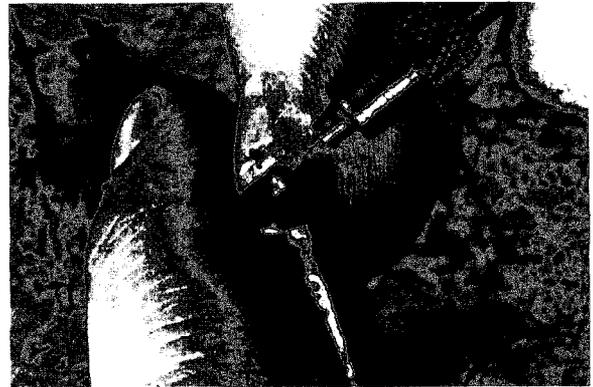

Figure 7-8
4. Clean spray holes with appropriate size cleaning needle (Figure 7-8). Remove burned-on combustion deposits on nozzle tip with dry cleaning solvent P-D-680. Rinse in clean diesel fuel.